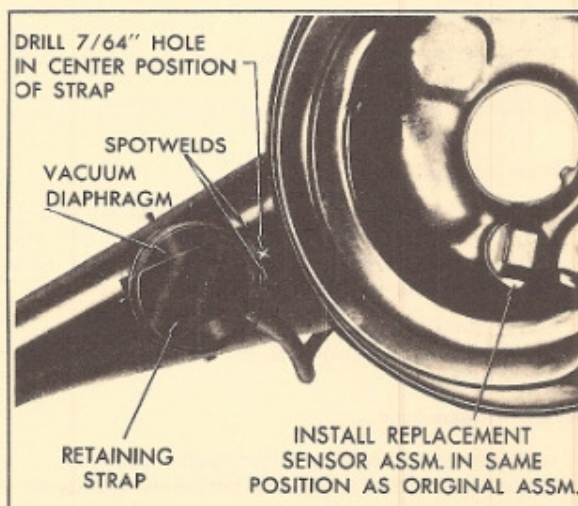

Figure 54 — Vacuum Diaphragm Replacement
1. Drill a 7/64-inch hole in the snorkel tube at center of vacuum motor retaining strap (see figure 54).